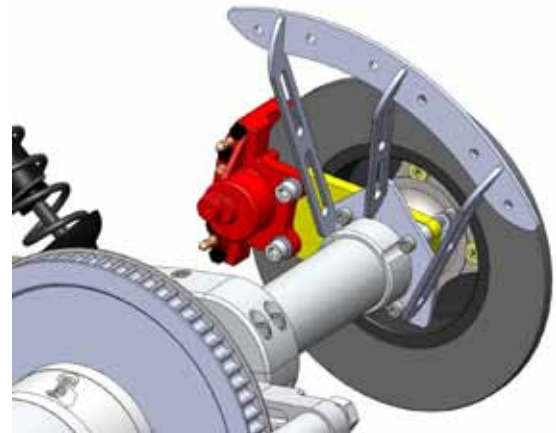

Figure 13
- a. Attach fender brackets to rear end housing using the supplied hardware. Torque to 19 lb. ft. Figure 13